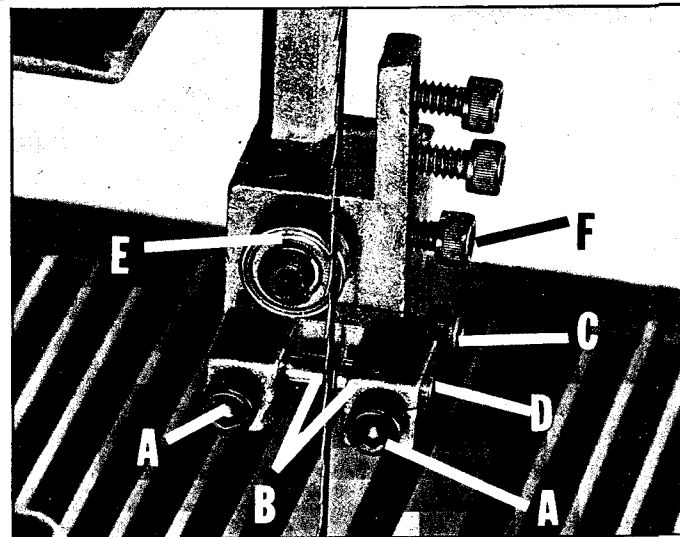

Fig. 13
1. Loosen the two screws (A) Fig. 13, and adjust the blade guides (B) as close as possible to the sides of the saw blade being careful not to pinch the blade. Then tighten the two screws (A).
2. Loosen screw (C) Fig. 13 and move the guide bracket (D) in or out until the front edge of the guides (B) are just behind the blade "gullets."
The upper blade support bearing (E) Fig. 13, prevents the saw blade from being pushed back too far while cutting. The support bearing (E) should be adjusted approximately 1/32" behind the blade, as follows:
1. Loosen screw (F) Fig. 13 and position the support bearing (E) 1/32" behind the rear edge of the saw blade. Then tighten screw (F).